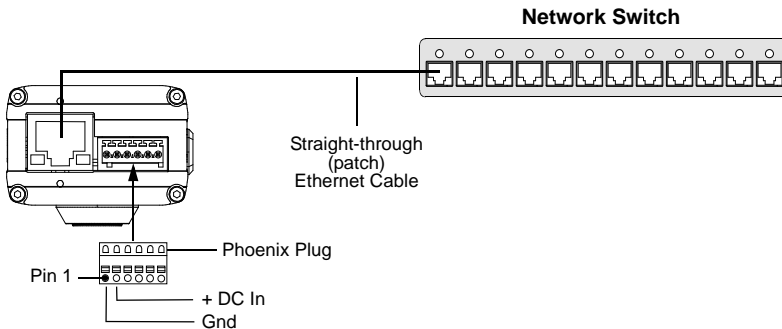

Fig. 7: Camera Power Via a Terminal Connector
- Insert the end of the ground wire into pin 1 (see Figure 7) of the Phoenix plug as far as it will go. The plug has spring-cage connections and will grip the wire.
- Connect a straight-through (patch) Ethernet cable to the RJ-45 connector on the camera and to your network switch as shown in Figure 7.